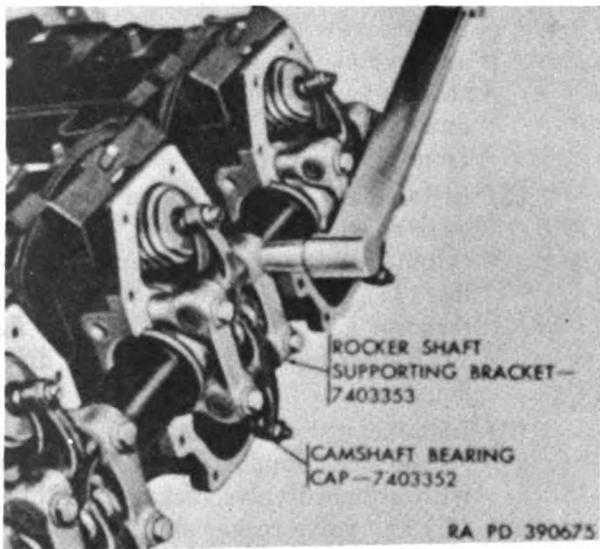

Figure 174. Torquing valve rocker shaft supporting bracket and bearing cap bolts.
- (3) Install camshaft bearing caps (Q) and rocker shaft supporting brackets (V), with attached valve rocker assemblies (U) and valve rocker shaft assemblies (T), on cylinder heads over camshaft.
- (4) Secure bearing caps and supporting brackets to cylinder heads with  $\frac{3}{8} \times$
2 $\frac{3}{16}$  hex-head bolts (S) and 2 $\frac{5}{16}$  id, 1 $\frac{3}{16}$  od,  $\frac{1}{8}$  thick flat washers (R). Torque bolts to 175 pound-inches as shown in figure 174. Secure bolts with locking wire.